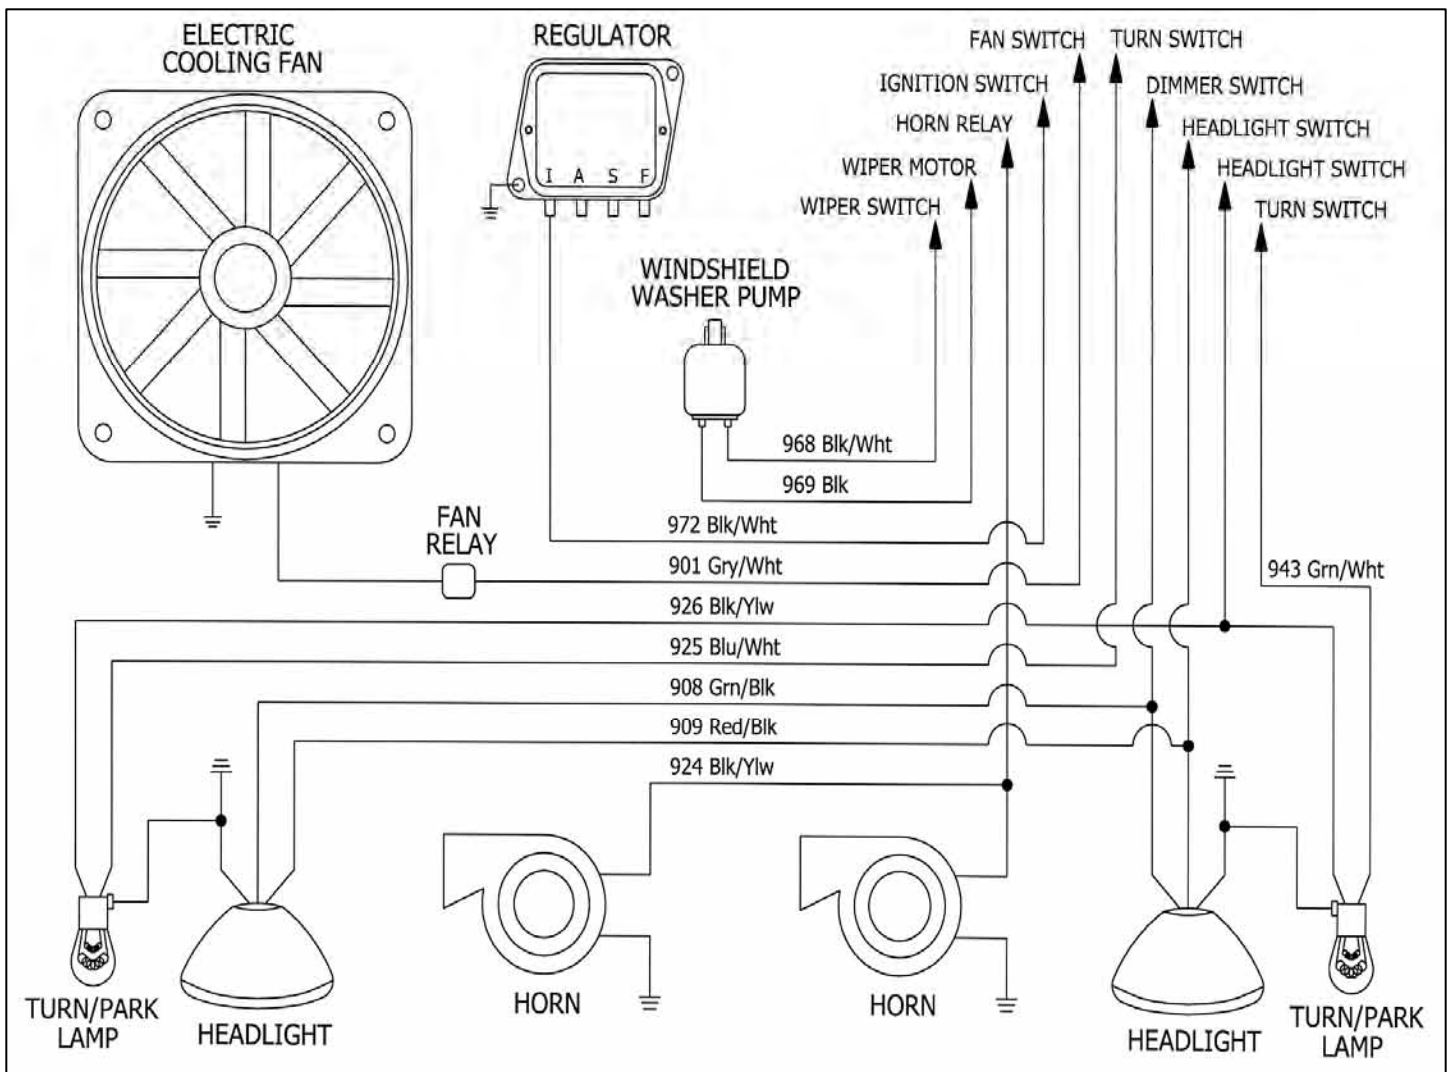

Figure 7-12 Headlight Section B Wiring
- 7.14.1 Connect the wires in HEADLIGHT SECTION B according to **Figure 7-12**. All Headlight wires and both Horn wires are terminated and have the correct connectors already installed, locate the left and right side of both and make the connections. Ground the (blk) wires from the headlight connector to the chassis.